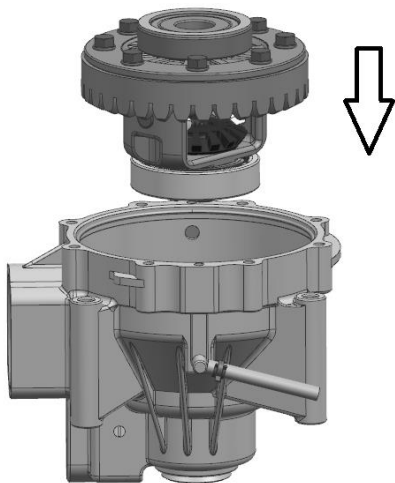

Fig 17
8. Install the differential assembly into the carrier housing. → Fig 17